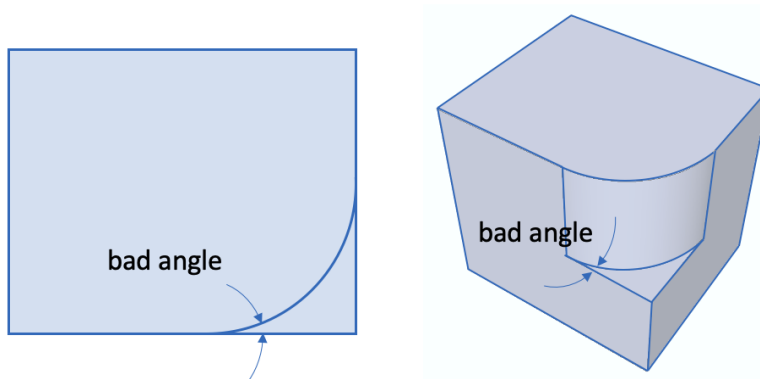

Figure 5. Bad Angle at Vertex Example
- **At Vertices** - For vertices, the angle formed by two attached curves is measured. Vertices where angles less than the **Bad Angle** threshold. Figure 5 shows an example of a bad angle where the resulting tet or hex mesh may result in poor mesh quality. Note that depending on how the angle is measured at the vertex, the small angle may be also be identified if **360.0-angle** is less than the **Bad Angle** threshold. The blunt tangency or collapse angle operations are useful for removing bad angles at curves.